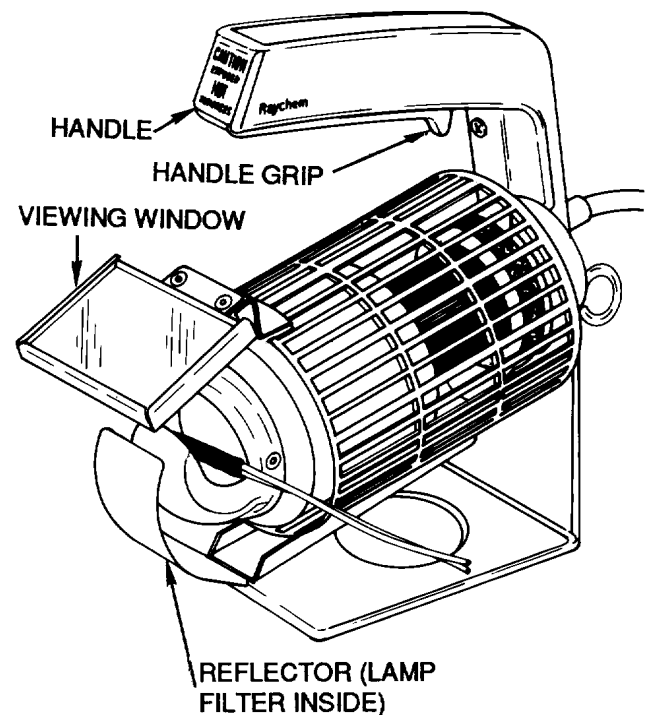

Figure 13. Radiant Heating Tool, IR-500
37. Radiant heating tool, IR-500 (Figure 13), is a portable lightweight electric heating tool designed for
38. PRE-OPERATION. Prior to using radiant heating tool (Figure 13), proceed as follows:
40. **OPERATION.** To operate radiant heating tool (Figure 13), proceed as follows:
41. POST-OPERATION. After using radiant heating tool (Figure 13), proceed as follows: